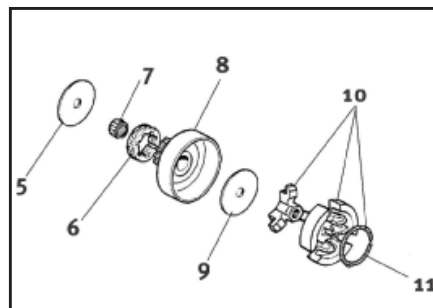

Figure 3
- Place the thin metal washer onto drive shaft. Slide the needle bearing and clutch cup w/rim sprocket onto shaft and slide the second thin metal washer onto the drive shaft. (Figure 3).